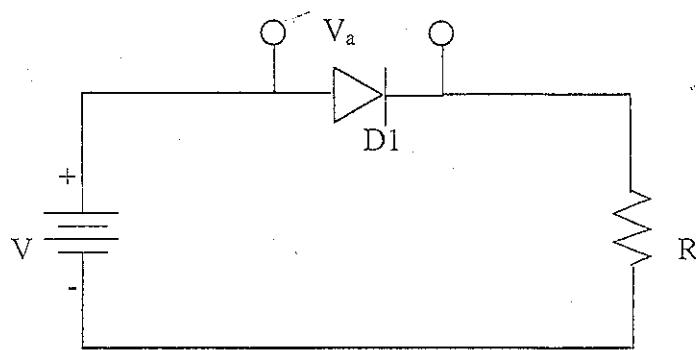

Fig.1(a)
A p-n junction diode is a two-terminal device that acts as an one-way conductor. When a diode is forward biased as shown in Fig. 1(a), current I_D flows through the diode and current is given by
When it is reverse biased as shown in Fig. 1(b), $I_D = -I_S$ (for see eqn. (2)). As it is generally in pA (pico-amp) range, in many applications this current is neglected and diode is considered open.